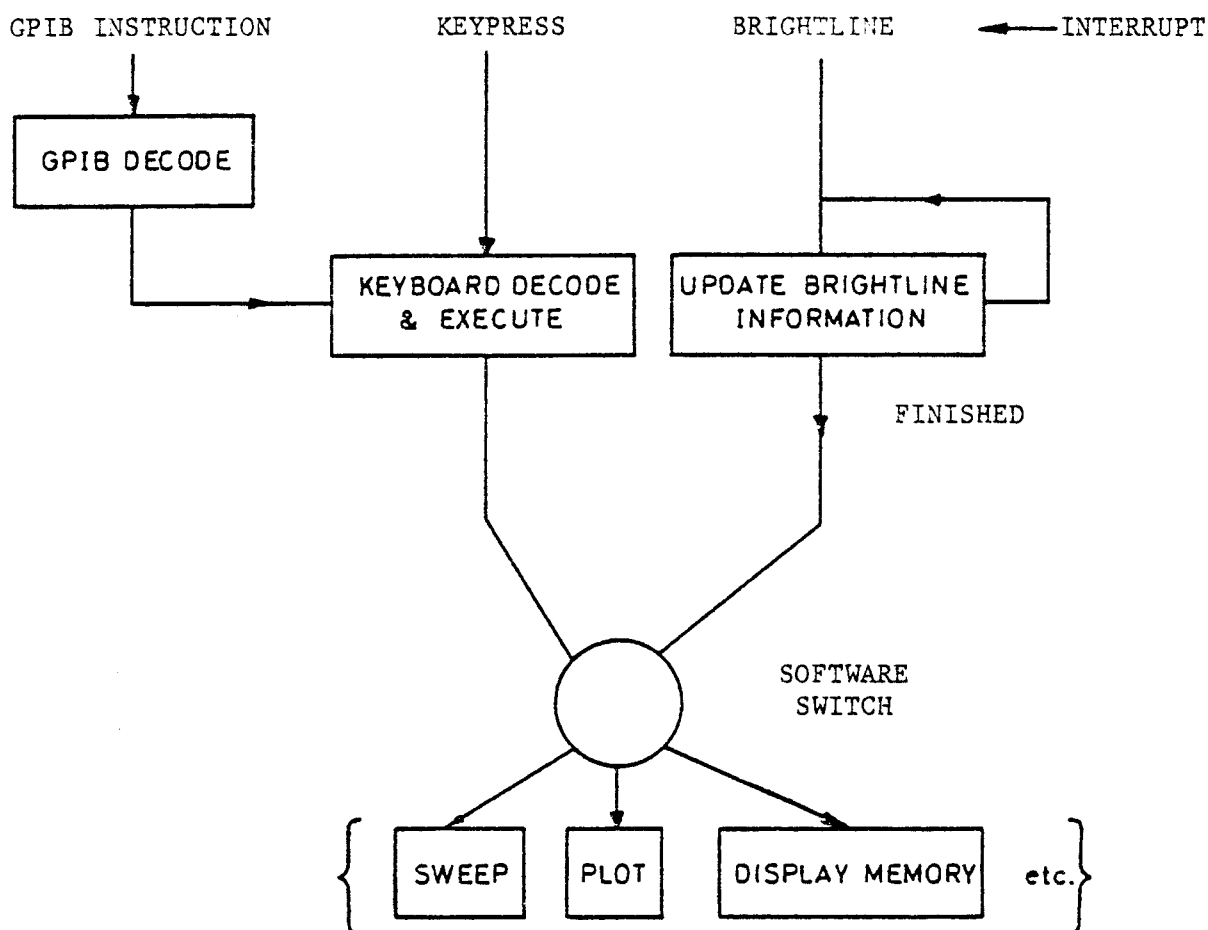

Fig. 5 Simplified software structure
31. The software is structured in such a way that when no control is being exercised over the operation of the instrument, either by the GPIB or the front panel keyboard, the instrument remains sweeping (with a few exceptions). A simplified structure would be as shown in Fig. 5 below.